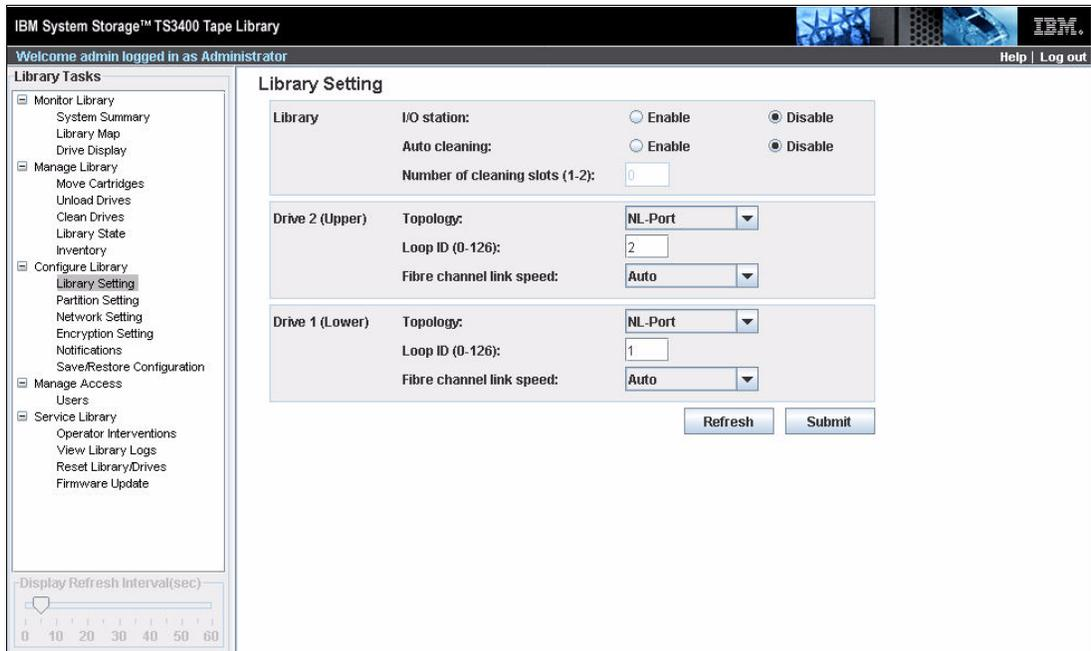

Figure 8-22 Configuring the TS3400 I/O station
2. After setting up the logical library, you now have to decide if you want to use the I/O station. Keep in mind that when you enable the I/O station, Partition 1 will lose three storage slots. When you want to enable the I/O station, choose Library Setting on the Welcome page; see Figure 8-22 on page 218. The I/O station is shared between the logical libraries.